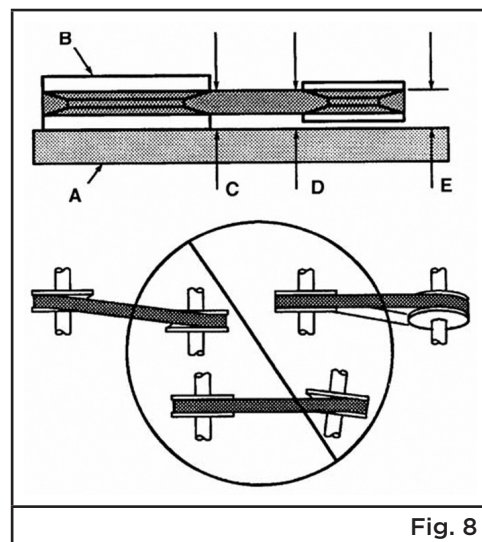

Fig. 8
To check pulley alignment, remove the belt guard and place a straightedge (A) against the pump flywheel (B) (Fig. 8). Measure and record the distance from the straightedge to the edge of the drive belt at point C. Then measure the distance from the straightedge to the edge of the drive belt again at points D and E. Both distances should be the same as at point C. If either D or E are different from C, there is a misalignment which must be corrected before the compressor is run.